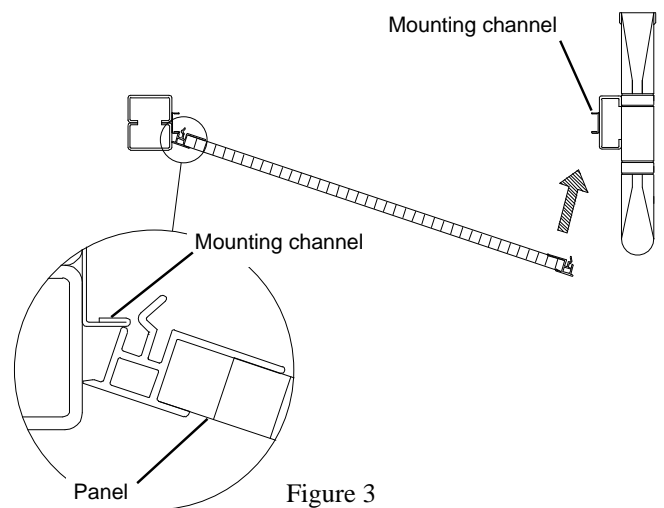

Figure 3
3. Install the panels onto the Full Frame by first inserting one side of the panel onto the Mounting Channel and then snapping the panel onto the opposite Mounting Channel. See **Figure 3**.